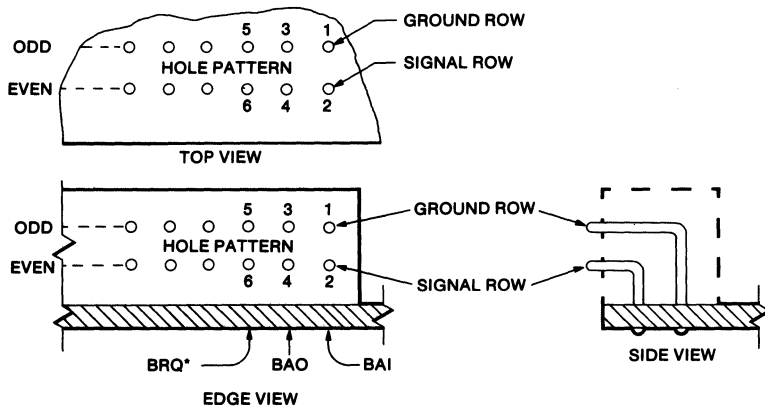

Figure 2-6. Recommended Connector Arrangement for Bus Controller Cards Using Serial Priority
- Connector layout for controller cards is as shown in figure 2-6. The ground pins are the top row and the signal pins are the bottom row.